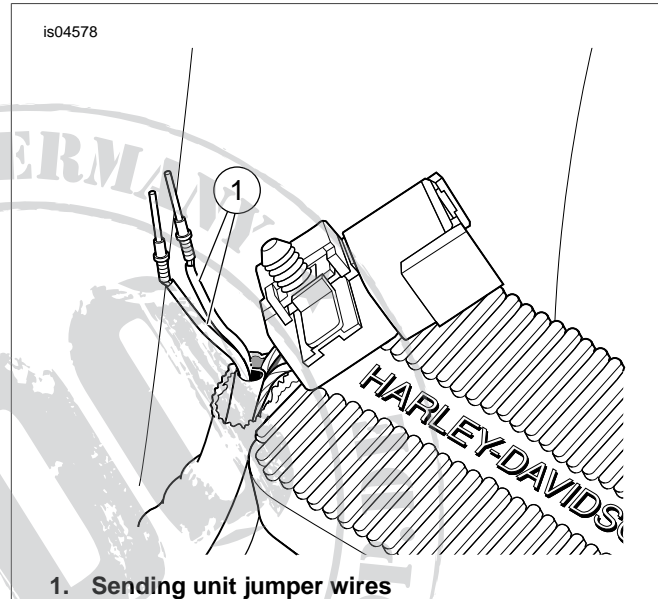

Figure 5. Route Oil Sending Unit Connector
9. See Figure 5. Locate pin chambers #1 and #2 on pin side of connector. Insert brown/green jumper pin into chamber #2 and feed until it clicks into place. Verify that pin will not back out of the chamber by giving a slight tug on the wire to confirm that it is locked.